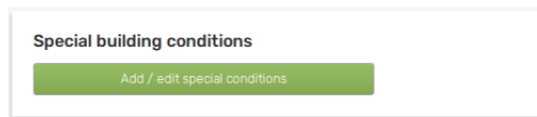

Figure E.1: Shows how special building conditions are added or edited in a LCAbyg project.
Specialconditions is added to a project under 'Building and operation' with the button **Add/edit special building conditions** see Figure E.1.
- STEP 1** Go to the menu tab *Building and operation* and add special conditions with the green button, see Figure E.1.